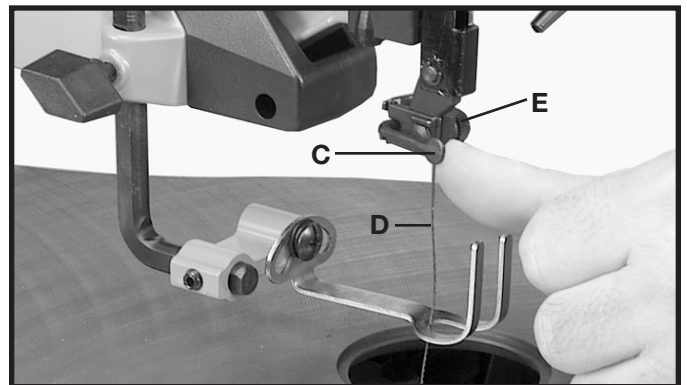

Fig. 23
2. Push upper blade chuck locking lever (C) Fig. 23, to the rear as shown. This will release the blade (D) from the upper chuck (E).